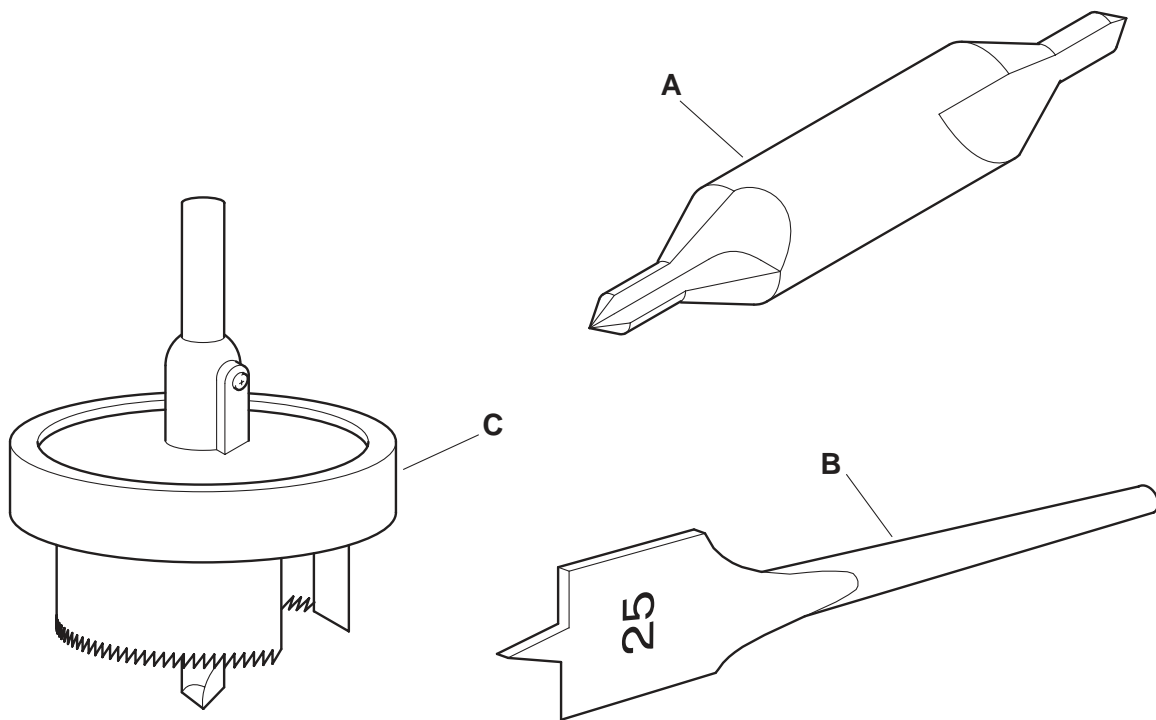

Fig. 5
11 Fig. 5 shows three different drilling devices.
- (a) Identify each device shown in Fig. 5 and state its purpose. [6]